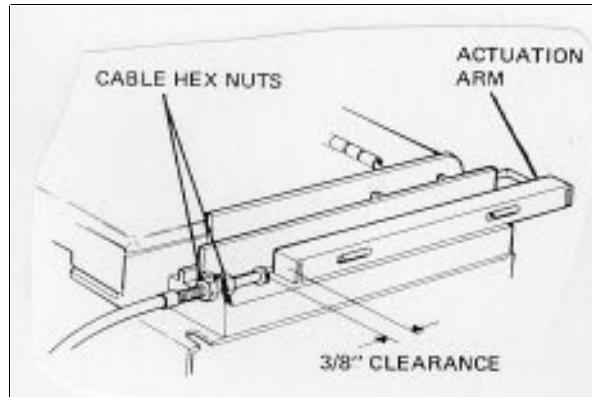

Figure 5-15. "Pre-View" Cable Adjustment
**4. "Pre-View" Cable Adjustment (figure 5-15)**
- b. Turn the cable hex nuts up or down to obtain the 3/8 inch dimension shown in figure 5-15. When this dimension is obtained, tighten the hex nuts finger tight.